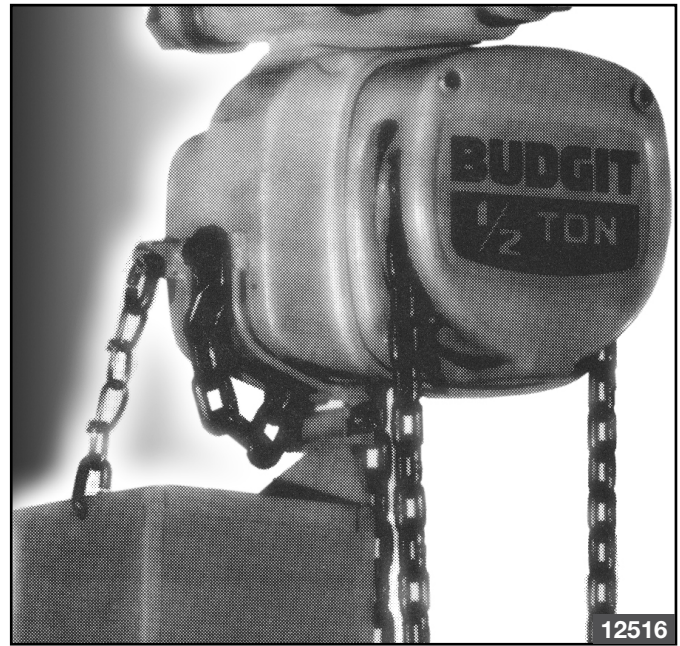

Figure 3. Complete Installation
- g. Open split link and connect loose end of support chain to open hole in outstanding leg of chain container bracket. See Figure 3.